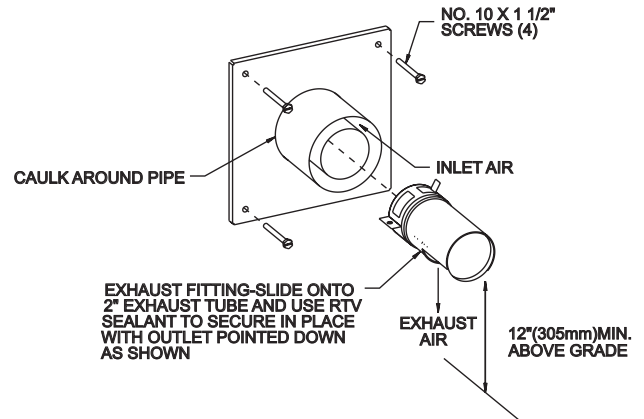

Figure 5
**See Figure 5.**
Place the 6 3/8" x 6 3/8" (162mm x 162mm) black foam, wall plate gasket within the mounting plate. The 4-3/4" (121mm) diameter hole in the black foam gasket will allow for installation of the concentric vent tube assembly. Slide the outside mounting plate into place on the concentric vent tube assembly. The outside mounting plate should seal against the face of the building and be secured in place using 4 screws. See Figure 5. Be sure to caulk and seal around the pipe on the exterior using high temperature exterior grade, silicone caulk rated at 204°C/400°F. Wipe some silicone sealant on the 2" (51mm) exhaust pipe extension. The end cap can be pushed into place on the exhaust outlet tube. Attention: The opening on the bottom of the end cap must be positioned toward the ground. The opening on the bottom cannot be pivoted to the right or left, it must be centered toward the ground.